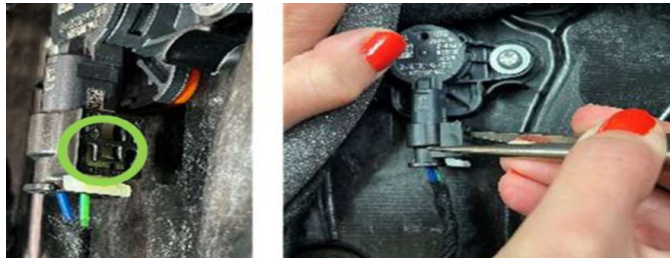

Fig. 14
16. Unseat the crash sensor tab by pushing the smaller tab inward and down Fig. 14.